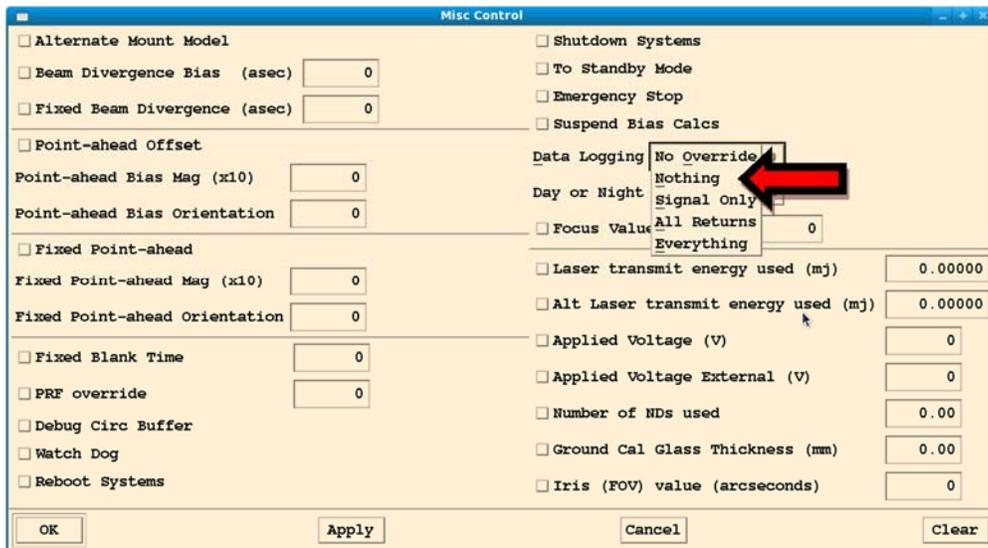
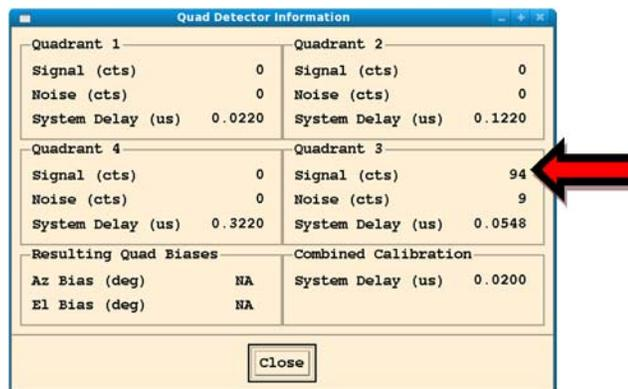

Figure 6-11: Misc Control window
Figure 6-14: Quad Detector window
7. Open the Control => Misc menu – From the Data Logging pull down menu, set Nothing (Figure 6-11).
12. **Go to View => Quad Detector window** to show the actual signal counts (Figure 6-14)
13. **Verify that the system is receiving between 40 and 200 signal counts** (Figure 6-14) – If necessary, adjust the rotary ND filters to achieve the appropriate number of returns (See note below).
Adjusting the Rotary ND filters: The default number of ND's applied by the rotary ND's is 2.0. Look at the signal counts shown in Figure 6-14. If it isn't in between 40 and 200, remove or add ND's using the **Number of ND's Used** entry in the **Misc Control** window to get the number of returns within an appropriate range (Figure 6-11).